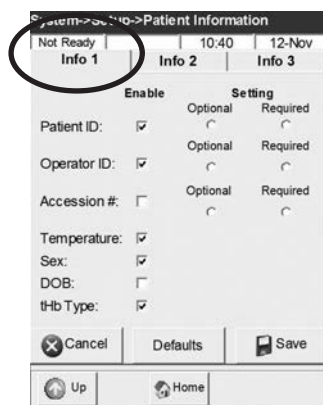

Fig. 3-14 Patient Info 1
- In the **<Info 1>** screen, select the options to be enabled (Fig. 3-14).